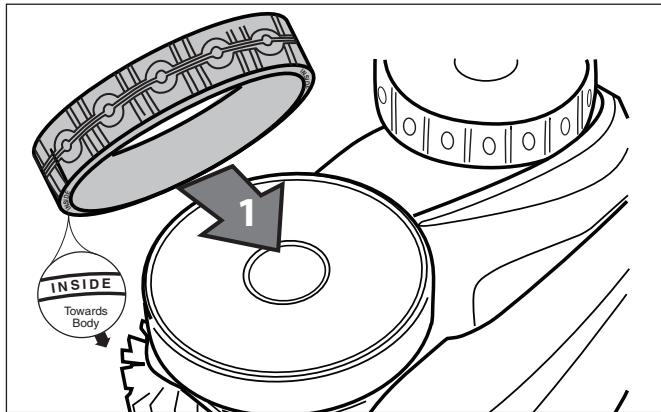

Figure 35. Tire Replacement Orientation
3. To replace the tire, position the tire on the wheel making sure to orient the tire so that the word INSIDE is toward the body of the cleaner (Figure 35).